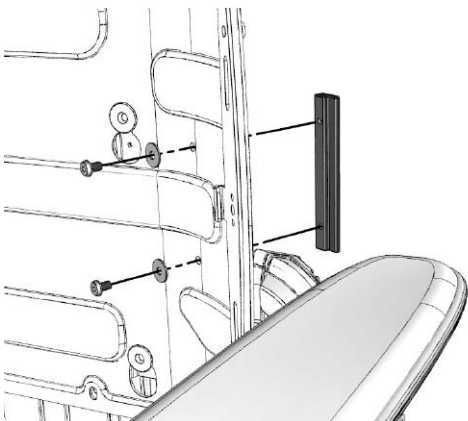

Fig. 2. Mounting the alignment rail on the back rest.
3. Mount the alignment rail on the back rest using the two attached screws and nuts. Fig. 2.